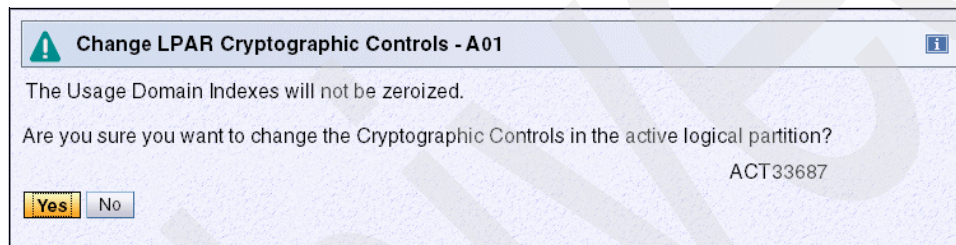

Figure 8-18 SE - Change LPAR Cryptographic Controls, message ACT33687
- Click **Yes** when the confirmation dialog is displayed to change the cryptographic settings dynamically. As the message in Figure 8-18 shows, the task was completed successfully.